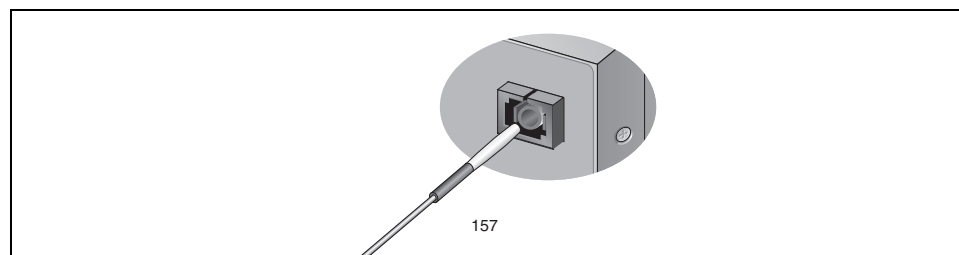

Figure 20. Cleaning a Recessed Ferrule
1. Insert the swab into the adapter as shown in Figure 20 and rub the ferrule tip with the swab.